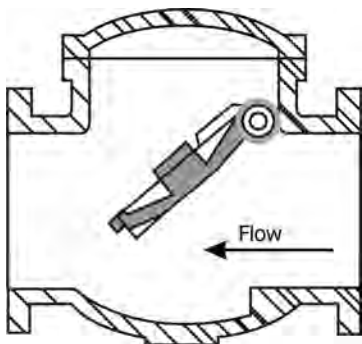

FIGURE 3.11 Swing check valve.
- Typical swing, ball, and lift check valves are illustrated in Figures 3.11, 3.12 and 3.13.